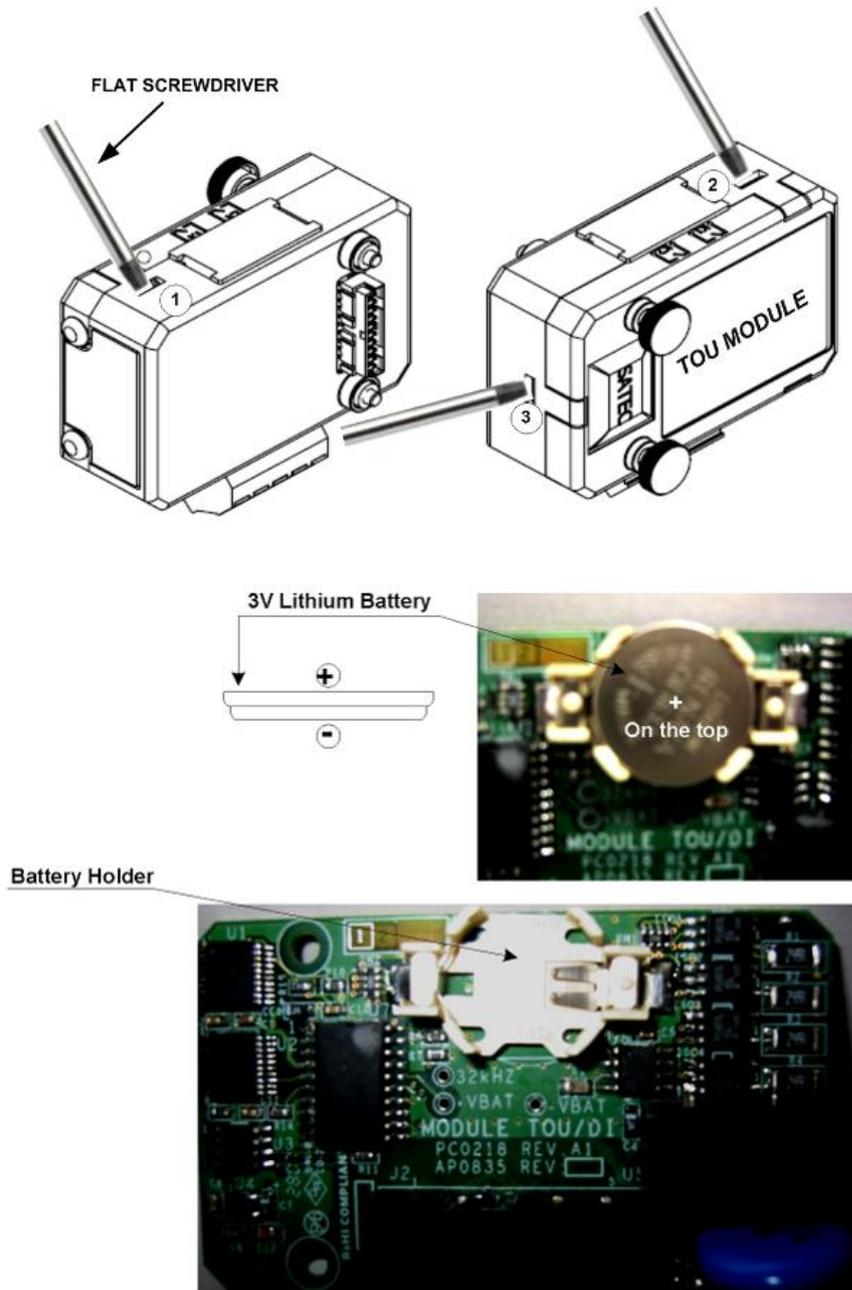

Figure 2-31 TOU RTC Battery Replacement
2. Open the TOU MODULE case by applying a flat screwdriver at three snap-in slit (1, 2 and 3), as shown in Figure 2-31.
4. Place the new CR1632 battery into the battery holder while holding up the battery holder retractable tab in such a way that the (+) battery pole is toward the battery holder, as shown in Figure 2-31.